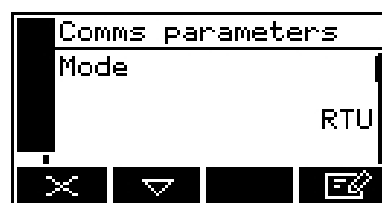

Figure A5 – Comms parameters mode Screen
2. The first screen (see Figure A5) requests the communication mode. This can be RTU or ASCII.